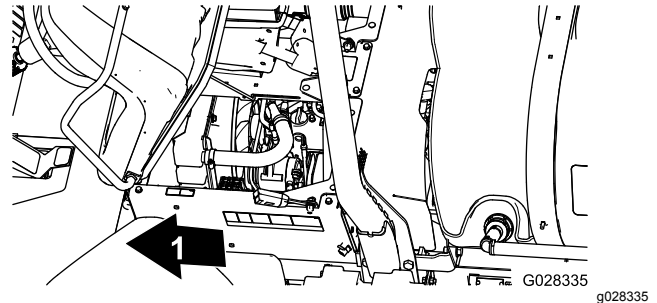

Figure 70
5. Remove the oil-filler cap from the filler neck of the valve cover of the engine (Figure 70) and slowly pour approximately 80% of the specified amount of oil into the filler neck.
6. Remove the dipstick and check the oil level in the engine (Figure 70).
7. Slowly add additional specified oil to bring the oil level to the full mark on the dipstick (Figure 70).
8. Install the oil-filler cap into the filler neck and the dipstick into the dipstick tube (Figure 70).